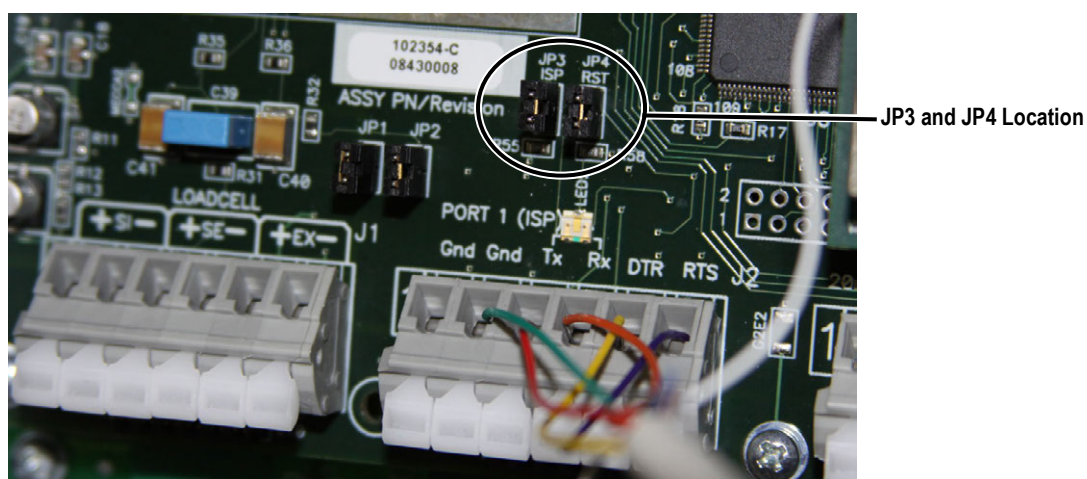

Figure 8-4. Jumpers Installed on JP3 and JP4
10. When complete, remove the jumpers shown in Figure 8-4 on page 89 and power up the indicator.